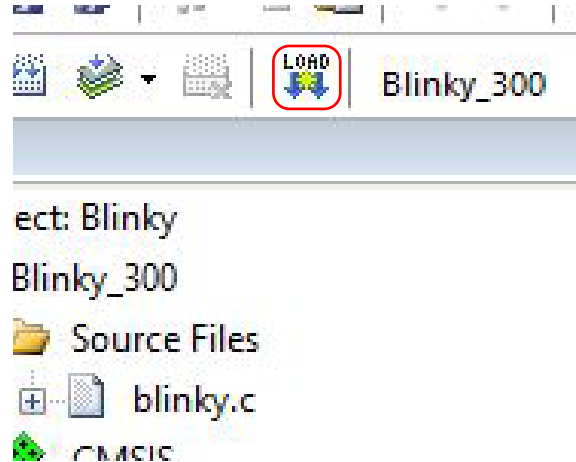

Figure 13. **Load** Button
- To download the code to the EVAL-ADUCM300QSPZ board, click **Load** (see Figure 13).